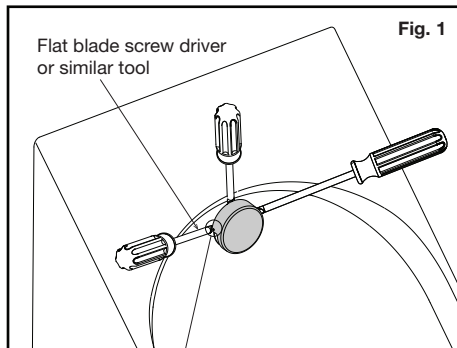
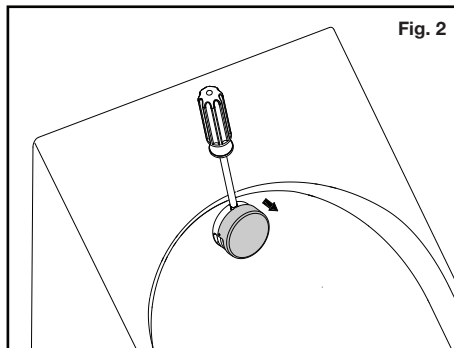

Fig. 1
Fig. 2
- 1- Using a flat blade screw driver or similar tool, pry out the cap starting from the sides around the "Dimples" and then top of the cap, as shown in **Fig. 1** and **Fig. 2**. A piece of cardboard or similar must be used to place in between the screw driver and the urinal surface to prevent any damage to the urinal. An insulated screw flat blade driver can also be used instead.